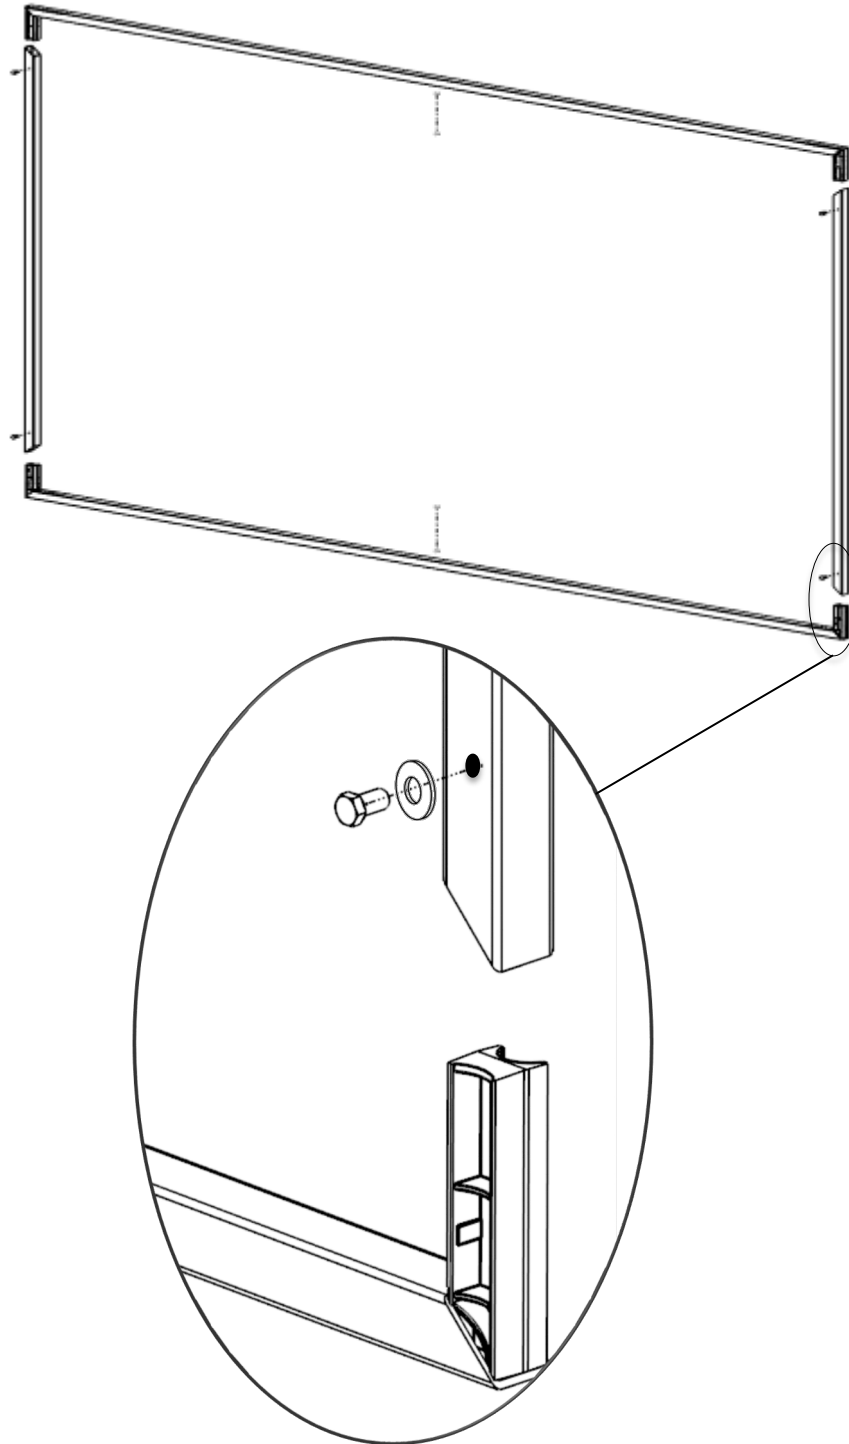

Figure 1: Frame Assembly
2. Secure the frame members with the supplied 1/4-20 x 1/2" hex bolts and 1/4-20 washer (see Figure 1).